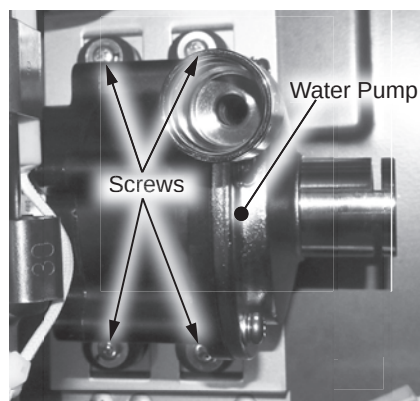

Figure 182 - Water pump screw locations
engage bracket threads. Do not remove screws from gasket boots. See Figure 182.
- 15 Locate the two heater blocks attached to HEX inlet tube as shown in Figure 182. Remove brackets (size 20) securing heater blocks to tube. Place brackets aside in a safe place for reinstallation. Route heater blocks and wiring inside water heater cabinet for ease of HEX inlet tube removal.